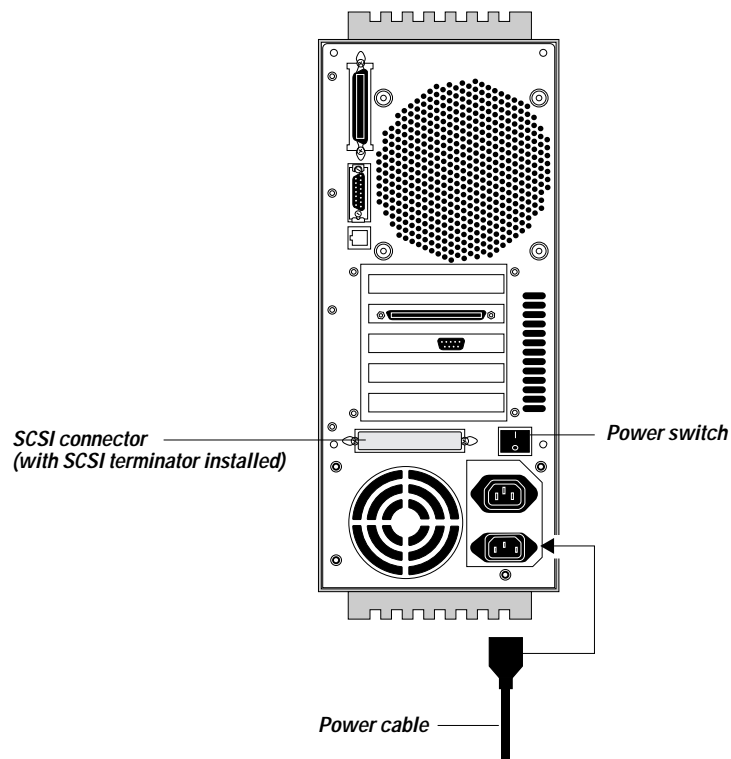

Figure 3-1 Fiery XJ-R/R2 back panel
1. *Connect one end of the Fiery XJ-R/R2 power cable to the lower plug at the back of the Fiery XJ-R/R2 (see Figure 3-1).*